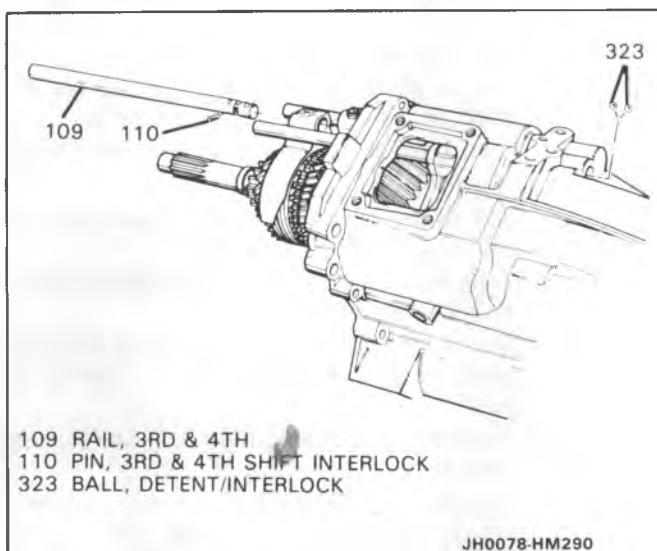
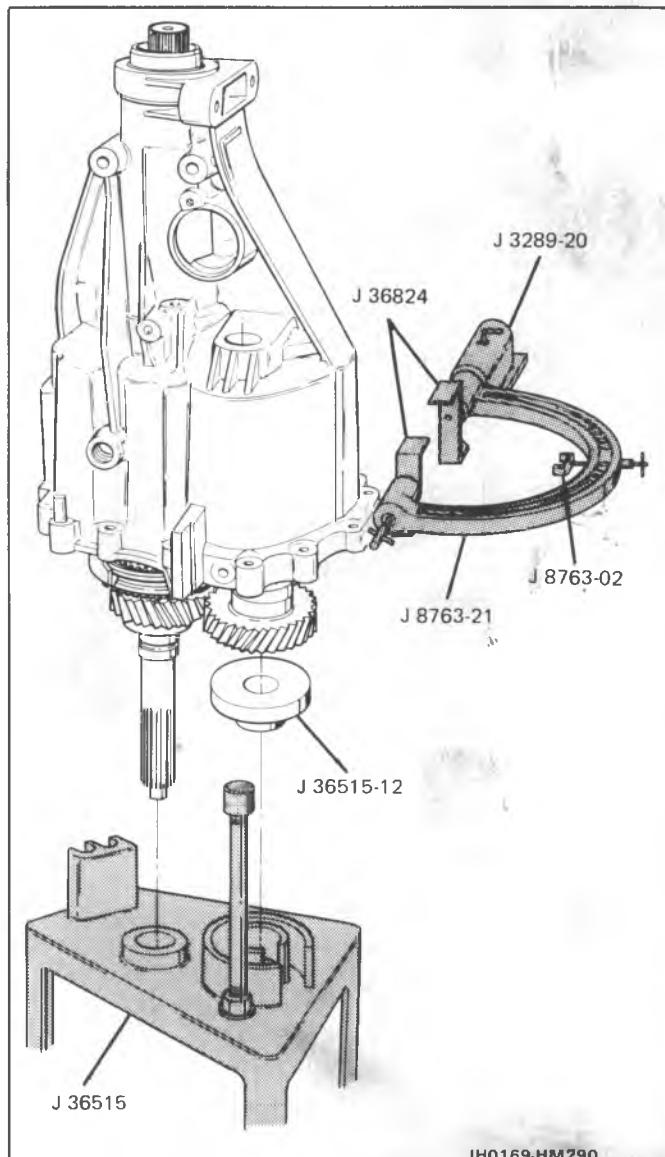

Figure 13 Removing 3-4 Rail and Interlock Balls
Figure 14 Removing and Installing Special Tools
20. Plug (326).
21. 3rd and 4th rail (109) (Figure 13).
- Drive through the plug hole (326) enough to expose the roll pin hole (107) then insert a 3/8 punch or equivalent through the roll pin hole (107) and pull (while twisting) out the shift rail.
22. Two interlock balls (323).
- Install J 36515 with J 36515-12 (Figure 14).